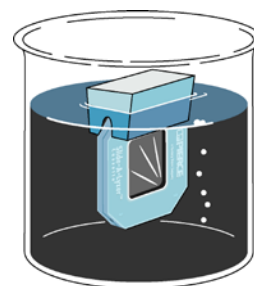
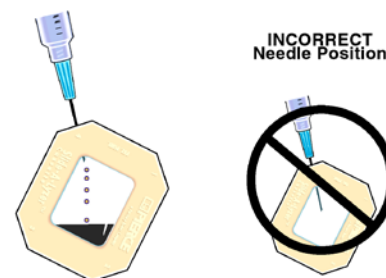

Figure 1. Membrane hydration
Figure 2. Sample addition
2. Immerse cassette in dialysis buffer (Figure 1). Hydrate the 3.5-20K cassettes for 1-2 minutes and the 2K cassettes for at least 2 minutes.
3. Inject sample slowly. Withdraw air by pulling up on the syringe piston (Figure 2).
Note: For cassettes requiring hydration, see Caution (top of Page 1) and Figure 1. Hydration increases membrane flexibility and allows it to adjust more readily to the positive pressure created as the sample is added (Figure 2) and to the vacuum created when air is removed.
Caution: Penetrate gaskets to a minimal extent with the needle's beveled portion. Overextending the needle into the cavity may puncture the membrane. Figures 2 and 4 illustrate the proper method for filling the cassette. If the sample has a high protein concentration (e.g., 10mg/mL) fill cassette slowly to avoid foaming.